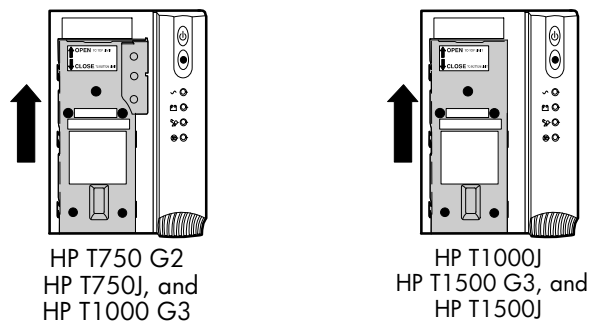

Figure 22 Removing the Battery Cover
- 2 Slide up and remove the metal battery cover (see Figure 22). Do not remove any screws.